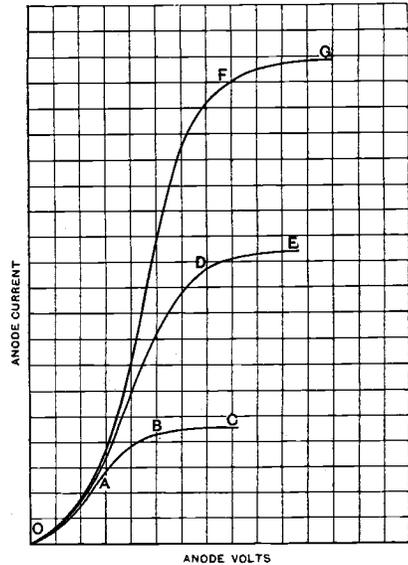

Fig. 2.
the number attracted to the anode will depend upon its potential relative to the filament. Starting therefore with the anode at zero potential, and then gradually increasing its voltage, the number of electrons reaching the anode, and consequently the current, will increase, as represented by the curve O A Fig. 2. Sooner or later, depending on the design of the tube, a certain anode potential will be reached beyond which any increase in anode voltage fails to produce an increase in anode current. At this point all the electrons are being received by the anode at the same rate as they are emitted from the filament, and we therefore obtain the horizontal part BC of the curve OABC, Fig. 2, which indicates the saturation current for the particular filament temperature. In practical operation we have no direct means of measuring the filament temperature, and have to rely on voltmeters and ammeters in the circuit. We do, however, know that an increase in the current through or the voltage across the filament results in an increased temperature.
Now it must, of course, be obvious that the number of electrons arriving at the anode cannot exceed the number leaving the filament,\* and therefore if a larger current is desired in the anode circuit the electron emission must be increased, which can only be done by raising the filament temperature, that is, by augmenting the filament current. The curve for this increased emission is given by OADE, Fig. 2, where the maximum anode current has been increased by an amount equal to the difference between the horizontal parts BC, and DE. Still further increasing the filament current gives the curve OAFG. It will thus be seen that for each value of filament temperature (filament current) there is a corresponding value of saturation current which obtains when the anode attracts all the electrons as fast as they are emitted. It will be noted, however, that the lower portions of these curves remain substantially unchanged.
The curves of Figs. 2, as well as others which will appear in these notes, can easily be verified by the reader making a few simple experiments, and indeed all theoretical studies should, where possible, be supplemented by practical work if full benefit is to be derived.
(this is easily done by means of a wander plug) and a reading of anode current as shown by the milliammeter mA taken for each setting of the anode voltage. Continue until it is found that increasing the anode voltage gives no further increase in current. The foregoing experiment will provide two sets of figures (1) anode volts, and (2) corresponding anode current, which when plotted on squared paper will give a curve of the nature of that shown by OABC, Fig. 2.
This will give the curve OADE, Fig. 2. We thus establish the fact that the emission of electrons from a heated filament varies with the temperature much the same as the rate at which a liquid evaporates varies with its temperature. The higher the temperature the faster will it evaporate, and in the same way by increasing the filament temperature we increase the rate at which the electrons are emitted and hence the available current.
Although the exact significance of the curves of Fig. 2 will be considered later, the following outstanding features may be mentioned now. In the first place it will be seen that the current through the valve does not follow Ohms Law, that is to say, the current is not directly proportional to the voltage across the tube, and secondly, the current through the valve is limited, but this limit is increased with increase of filament current.